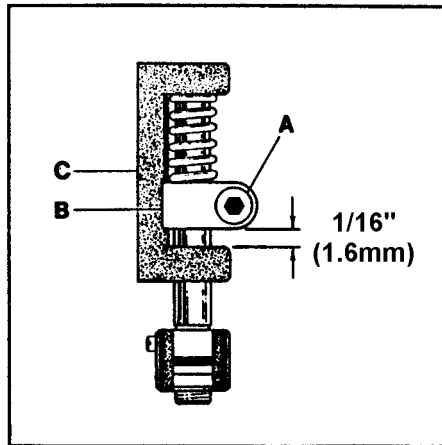

FIG. 31
To set spring pressure between the knives loosen screw (A, Fig. 31) and raise knife holder guide collar (B) 1/16" (1.6mm) from knife driving bracket (C). Tighten screw (A).